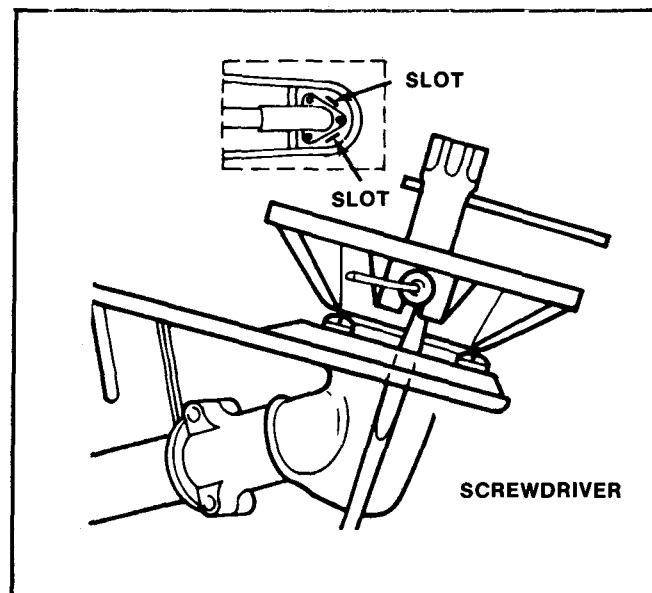

Figure 147
3. Insert a flat bladed screwdriver into the slot in the top of the shield to prevent the cutter head from rotating during spool removal. Remove the nut by turning clockwise (as viewed from the bottom of the spool). See Figure 147.
3. Insert a flat bladed screwdriver into the slot in the top of the shield to prevent the cutter head from rotating as shown in Figure 147.